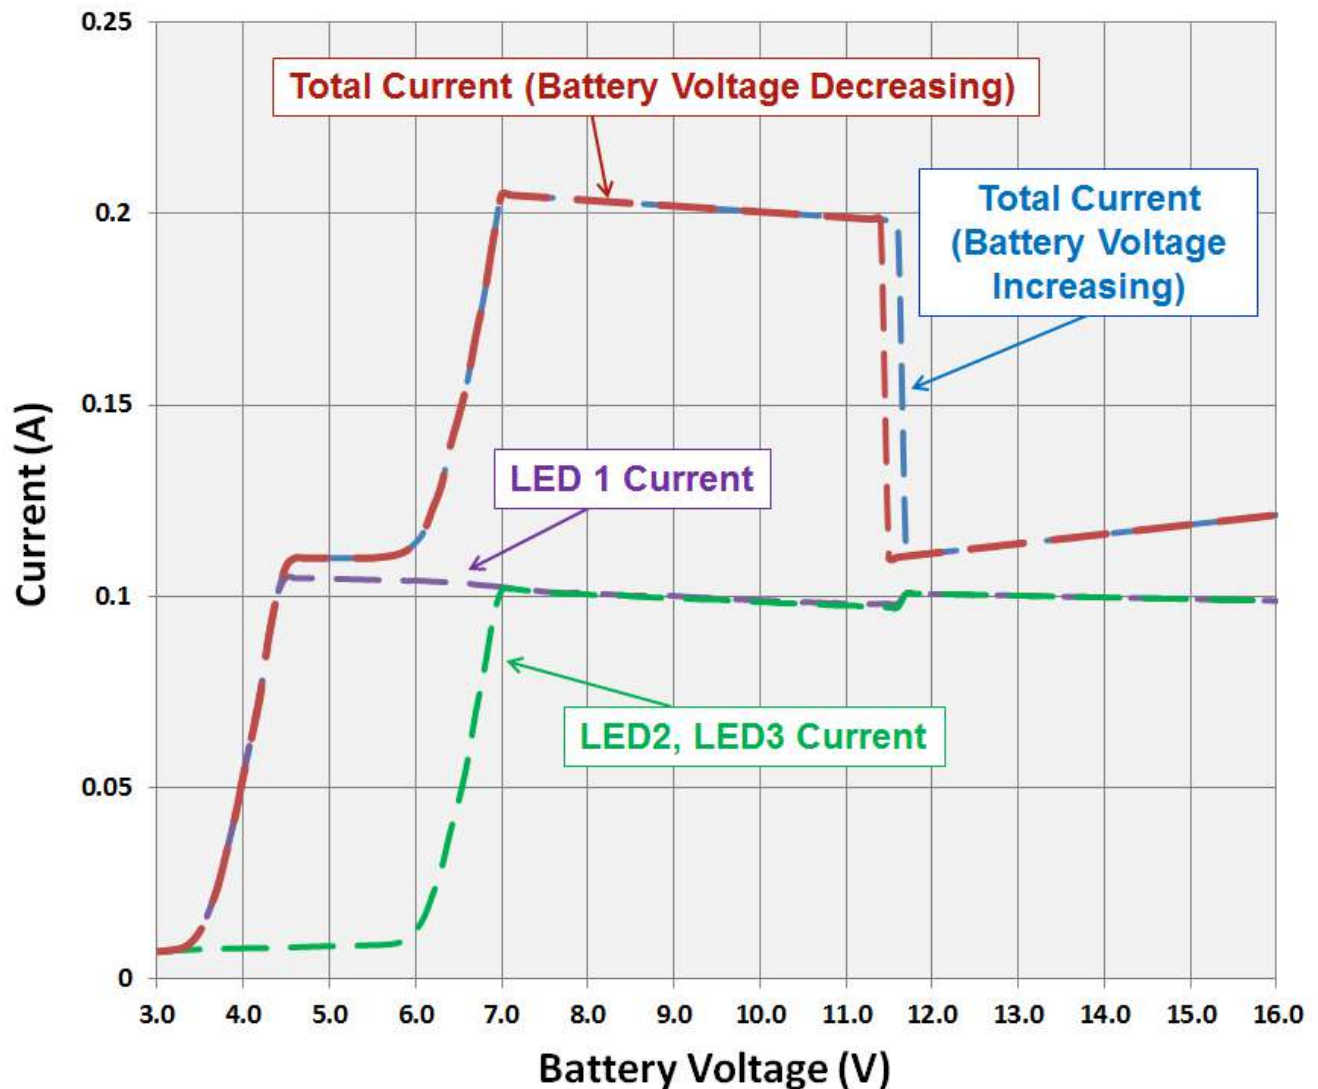

Figure 3: I-V Characteristic
4. Check that the I-V characteristic shown in Figure 3 is present.